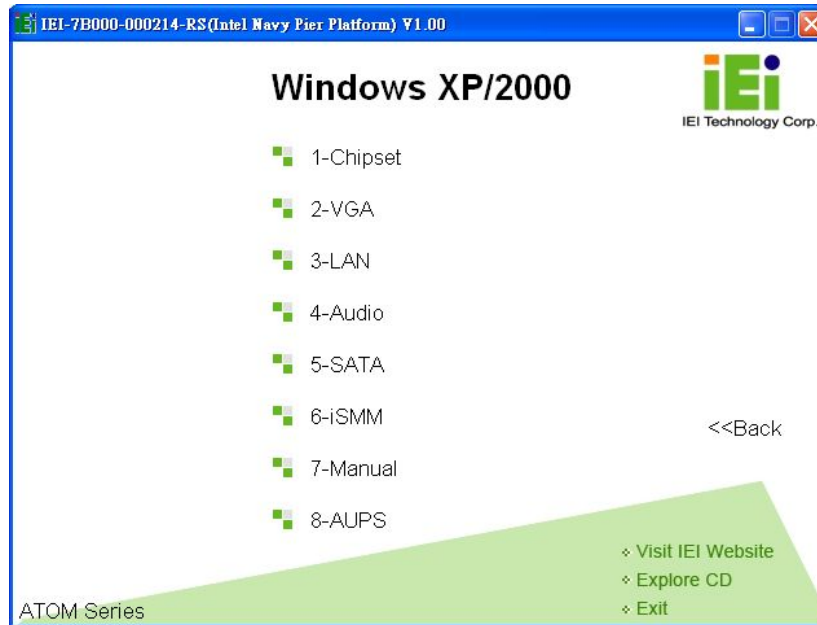

Figure 7-3: Drivers
Step 6: The list of drivers in **Figure 7-3** appears.
Step 1: Access the driver list shown in **Figure 7-3**. (See **Section 7.2**)
- Step 1:** Access the driver list shown in **Figure 7-3**. (See **Section 7.2**)